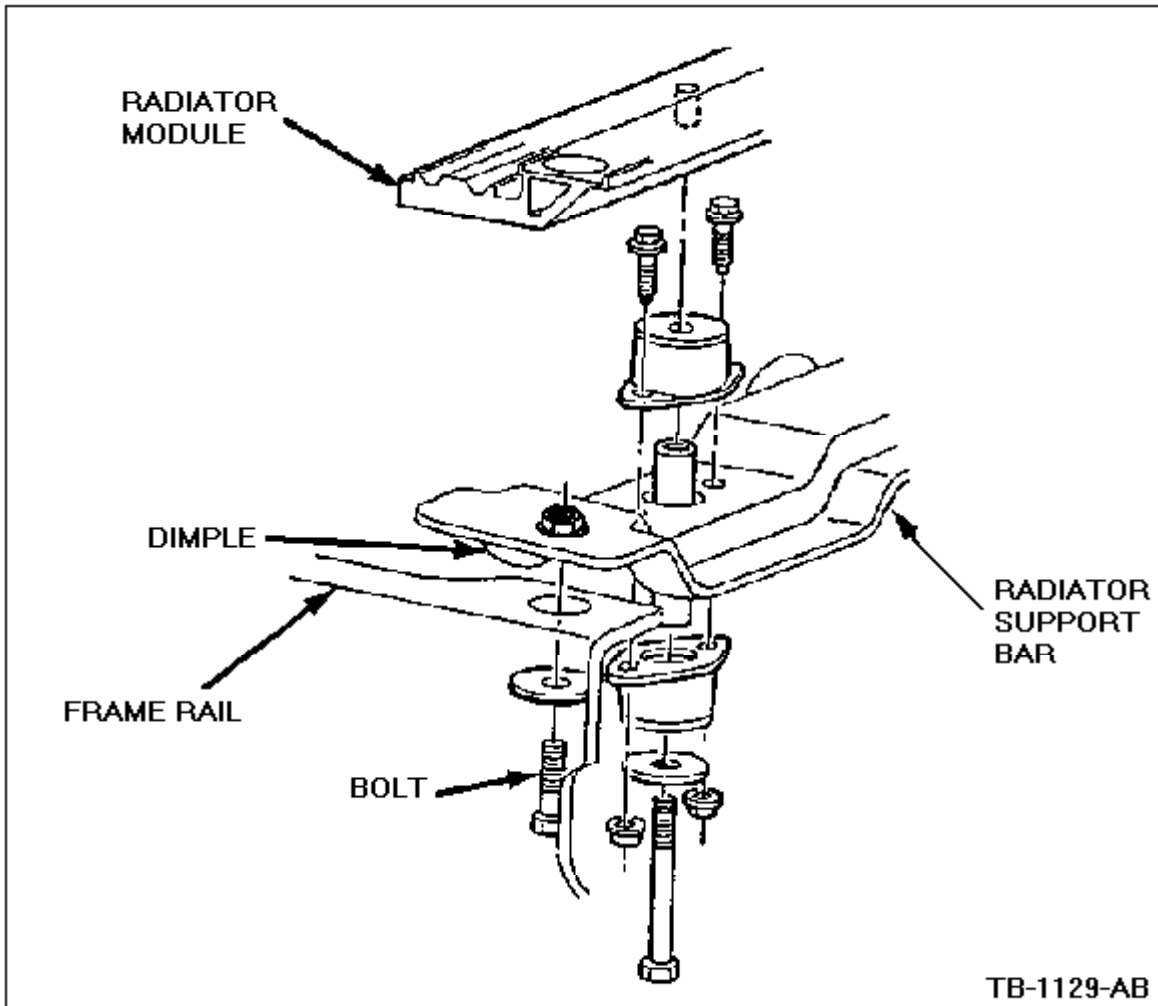

Figure 2 - Article 89-11-13
1. Inspect the ends of the radiator support bar, Figure 2.
2. Make sure the bar is flush on top of both frame rails, Figure 2. If the bar is not flush, proceed as following:
- c. If the bar is loose or mispositioned, or if the bolts are loose, remove the bolts, Figure 2.